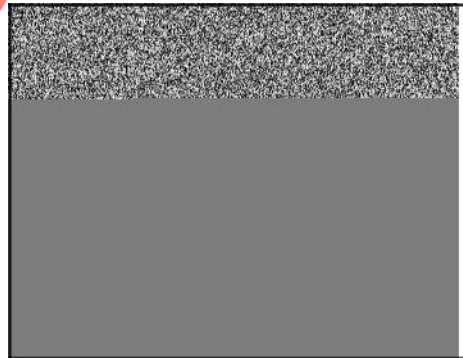

Figure 57
3. Remove the fuel transfer tube (**B**) from the carburetor base (**A**, Figure 57). Discard o-rings.